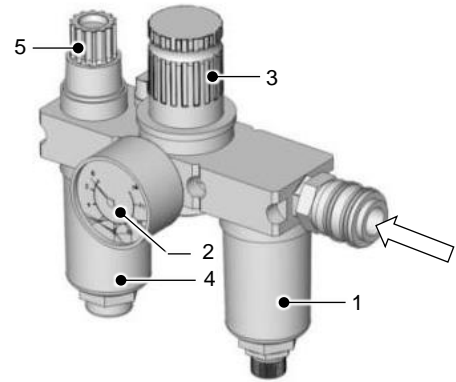

Fig. 5.3 – Oil mist lubricator
The connection must be made via an oil mist lubricator R 3/8", see Fig. 5.3.
- Connect the bung dropper to an oil mist lubricator (accessories) with an air hose (accessories). Mount the oil mist lubricator in the following order: – Water separator (1), – Pressure gauge (2) with regulator (3), – Oiler (4) with dosing screw (5), see Fig. 5.3 Oil mist lubricator.